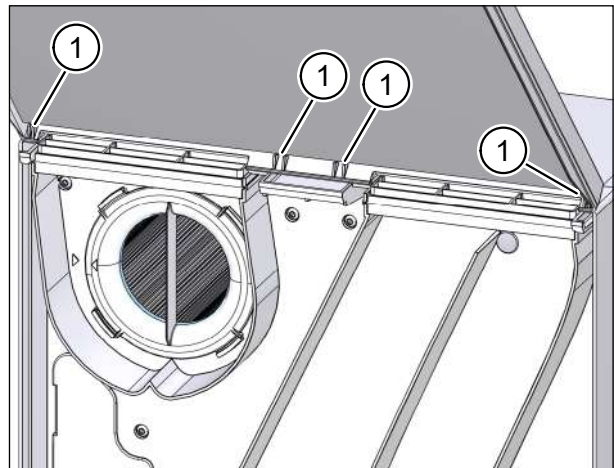

Fig. 51: Attaching the unit cover to the ventilation unit
- ▶ Insert the tabs (item 1 in Fig. 51) of the unit cover into the openings on the top of the ventilation unit.